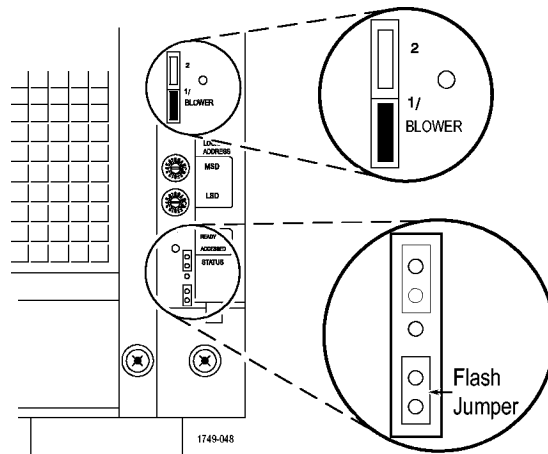

Figure 37: Connect the flash jumper
5. At the back of the Enhanced Monitor Card, connect a jumper (with a pull-tab) on the bottom two flash programming pins. (See Figure 37.)
9. Reconnect the fan cable (or cable adapter) to the connector labeled 1/BLOWER on the Enhanced Monitor Card. (See Figure 37.)